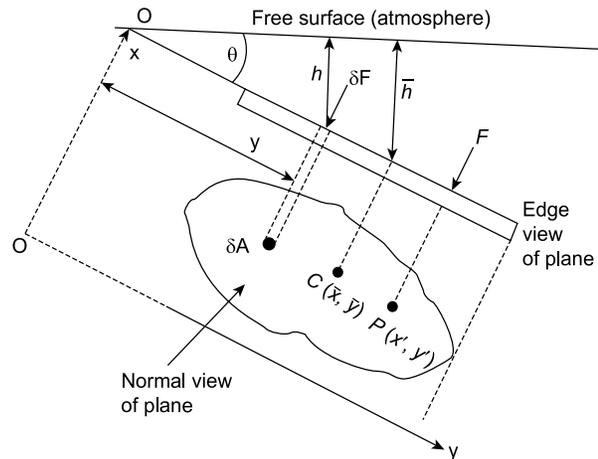

Figure 22.11
Problem 11. Determine an expression for the thrust acting on a submerged plane surface, which is inclined to the horizontal by an angle θ , as shown in Figure 22.11.
From Figure 22.11, $\delta F =$ elemental thrust on dA
Problem 12. Determine an expression for the position of the centre of pressure of the plane surface $P(x', y')$ of Figure 22.11; this is also the position of the centre of thrust.
- A tank has a flat rectangular end, which is inclined to the horizontal surface, so that $\theta = 30^\circ$, where θ is as defined in Figure 22.11, page 254. If this end is of size 6 m height and 4 m width, determine the thrust on this end and the position of the centre of pressure from the top. The tank may be assumed to be just full.